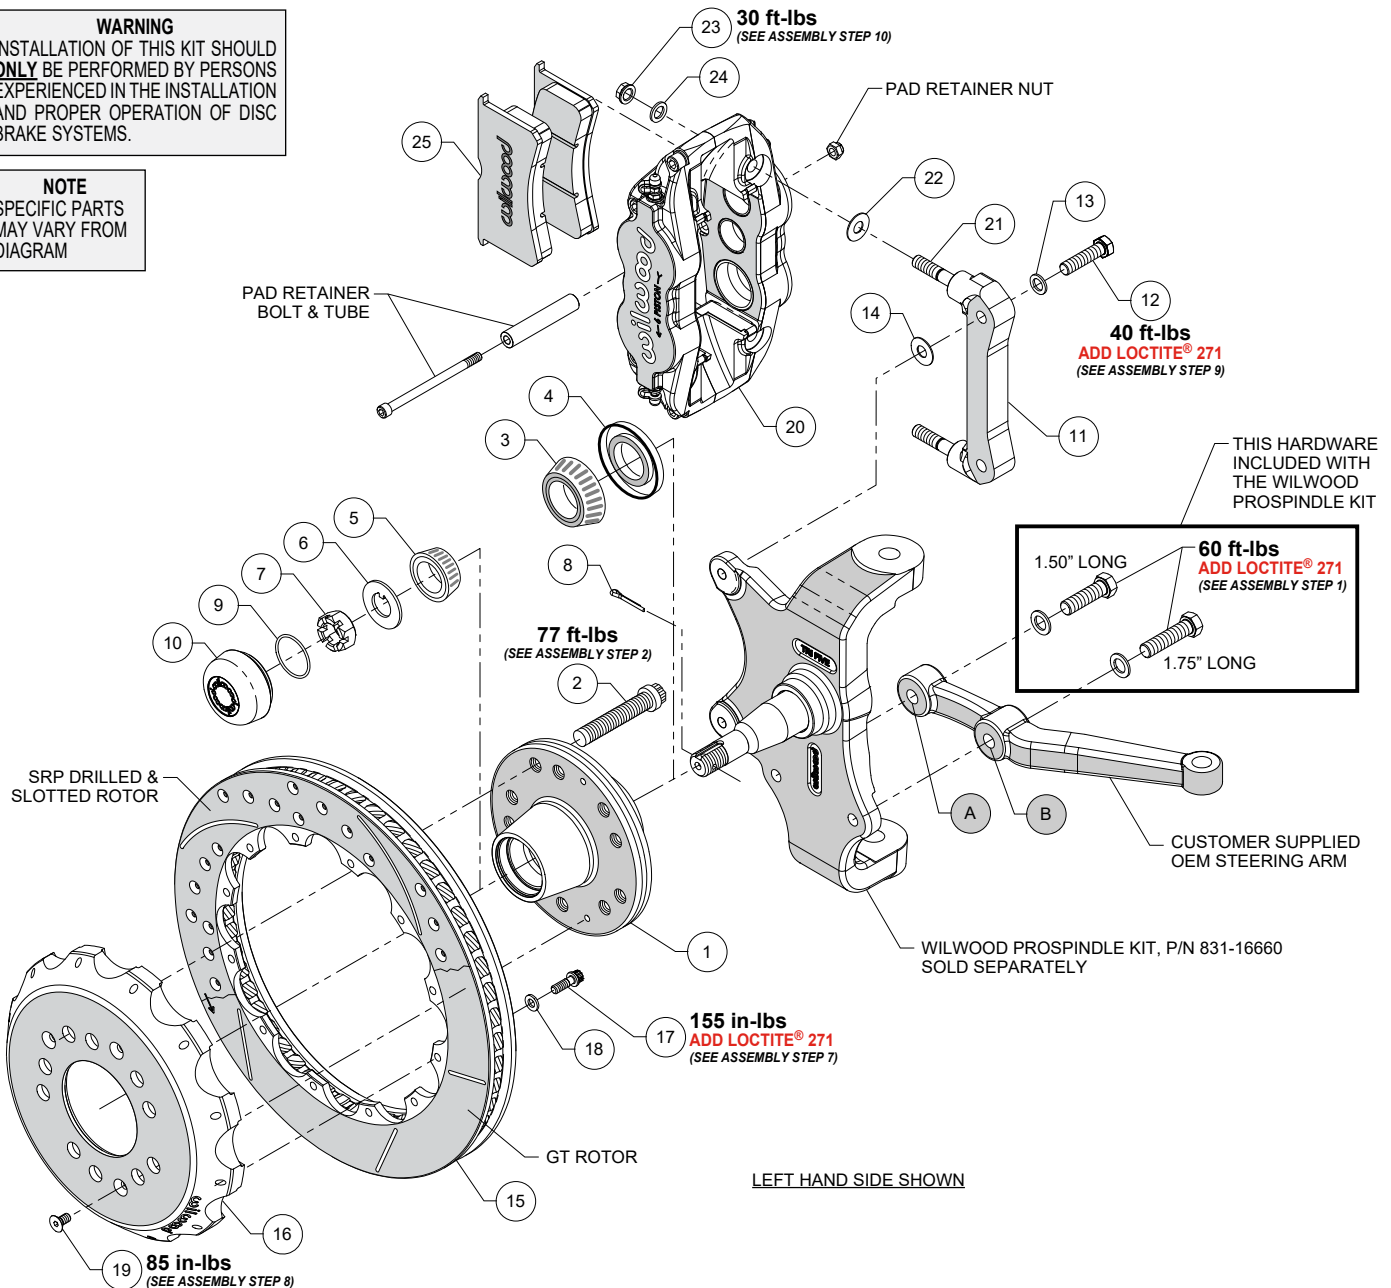
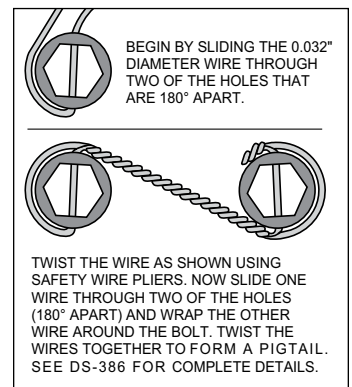

Figure 1. Typical Installation Configuration
Figure 3.
Numbers in parenthesis refer to the parts list and Figure 1 on the preceding pages.
•**NOTE:** Wilwood's ProSpindle kit (p/n 831-16660) includes bolts and washers to mount the steering arm (customer supplied) to the spindle. The various bolts are identified by length in the following instructions and in Figure 1.
STEP 1 Orient the steering arm, and identify the hole marked "A" as shown in Figure 1. Attach arm to spindle using 1.50" long bolt and washer (from ProSpindle kit), Figure 1. Finish attaching the steering arm through the hole marked "B", using 1.75" long bolt and washer (from ProSpindle kit), Figure 1. Temporarily tighten the mounting bolts. **NOTE:** The steering arm must fit squarely against the mounting points on the spindle. Inspect for interference from casting irregularities, machining ridges, burrs, etc. Remove bolts one at a time, apply red Loctite® 271 to threads, and torque to value shown in Figure 1.
STEP 2 Install wheel studs (2) from the backside of the hub (1), Photo 1. Torque to value shown in Figure 1. **NOTE:** There are two five lug patterns in the hub (5 x 4.50" and 5 x 4.75"). Ensure the correct hub stud pattern is being used to fit the wheel application.
STEP 3 Pack the large inner bearing cone (3) with high-temp disc brake bearing grease (available from your local auto parts store) and install into the backside of the hub (1), Figure 1 and Photo 2. Install the grease seal (4) by pressing into the backside of the hub (1), flush with the end of the hub.
STEP 4 Pack the small outer bearing cone (5) with high temperature disc brake bearing grease and install into the front side of the hub (1). Slide the hub assembly onto the spindle, Photo 3. Secure using spindle washer (6) and spindle nut (7). **Bearing adjustment:** Tighten the nut while turning the hub. When there is a slight bind on the bearings, they are seated correctly. Back the nut off about 1/6 to 1/4 of a turn, or sufficiently to allow .001" to .007" end play. **WARNING:** Failure to back off adjusting nut could cause bearing to run hot and be damaged, which could cause the wheel to lock or come off. Install cotter pin (8), Photo 4.
STEP 5 Screw dust cap (10) into hub (1), Photo 5. Friction created by the o-ring (9) on the dust cap keeps it from unscrewing. **NOTE:** The O.D. of the existing OEM spindle washer may be larger than the I.D. of the dust cap not allowing it to seat against the hub face. Therefore, use the spindle washer (6) supplied with the kit instead of the OEM washer.
STEP 6 The caliper mount bracket (11) should initially be installed with clean, dry threads on the mounting bolts. Orient the bracket as shown in Figure 1 and Photo 6, and install using bolts (12) and washers (13). Initially place one .035" thick shim (14) on each bolt between the bracket and spindle, Figure 1. Temporarily tighten the mounting bolts. **NOTE:** *The bracket must fit squarely against the mount bosses on the spindle.* Inspect for interference from casting irregularities, machining ridges, burrs, etc. Later, after the caliper alignment has been checked, the mount bolts will be secured using red *Loctite*® 271.
STEP 7 Orient the rotor (15) and the hat (16) as shown in Figure 1 and Photo 7. Attach rotor to hat using bolts (17) and washers (18). Apply red *Loctite*® 271 to the bolt threads and torque to value shown in Figure 1 using a criss-cross pattern. For an added measure of security, the bolts may be safety wired using standard 0.032 inch diameter stainless steel safety wire as shown in Figure 3. Please refer to Wilwood's data sheet DS-386 (available at www.wilwood.com/Pdf/DataSheets/ds386.pdf) for complete safety wire installation instructions.
STEP 8 Slide the hat/rotor assembly (16 and 15) onto the hub assembly. **NOTE:** *The hat must fit flush against the hub flange or excessive rotor run out may result.* Install set screws (19) to keep the hat/rotor assembly in place while continuing with the installation, Photo 8. Torque to value shown in Figure 1.
STEP 9 **NOTE:** *This kit contains distinct right and left hand calipers that must be mounted in a specific direction, as described below.* Initially place one .035" thick shim (22) on each stud between the caliper and the bracket, as shown in Figure 1 and Photo 9. Mount the caliper (20) onto the bracket (11) using lock nuts (23) and washers (24), Figure 1. Temporarily tighten the lock nuts. Ensure that the caliper is mounted so the largest pistons are at the rotor exit end of the caliper, in relation to the forward rotation of the rotor. View the rotor through the top opening of the caliper. The rotor should be centered in the caliper, Photo 10. If not, adjust by adding or subtracting shims (14) between the bracket and the spindle. Always use the same amount of shims on each of the two mounting bolts. Once the caliper alignment is correct, remove the bracket mounting bolts (12) one at a time, apply red *Loctite*® 271 to the threads, and torque to value shown in Figure 1.
STEP 10 Remove the caliper pad retainer bolt, tube, and nut from the caliper. Insert the brake pads (25) into the caliper, with the friction material facing the rotor, as shown in Photo 11. Check that the top of the brake pad is flush with the outside diameter of the rotor. If not, adjust by adding or subtracting shims (22) between the caliper and the bracket. After the caliper pad height is set, reinstall the pad retainer bolt, tube and nut, Photo 12. The bolt should be snug without play in the tube. Be cautious not to over tighten. Torque the caliper lock nuts (23) to value shown in Figure 1.